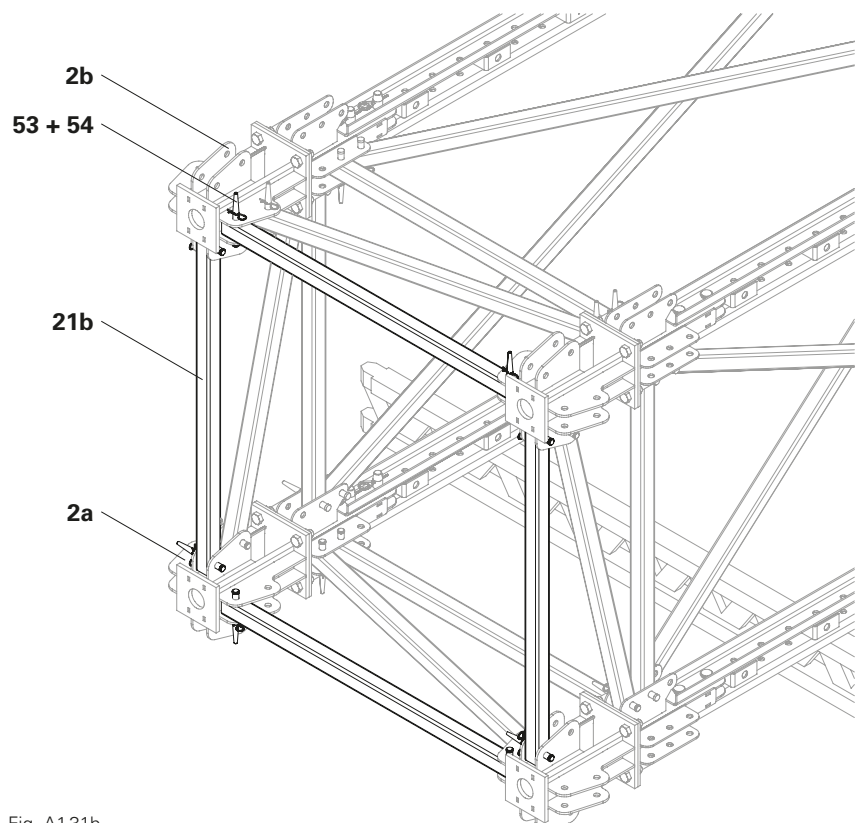

Fig. A1.31b
3. Repeat steps 1 – 2 for all prop heads. (Fig. A1.31b)